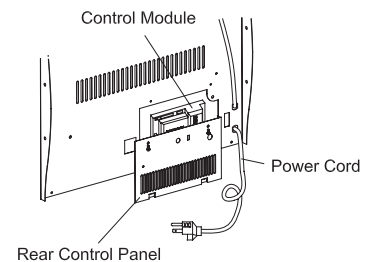
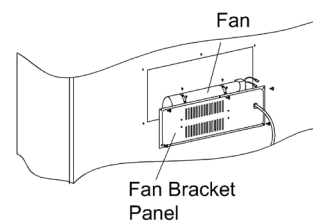
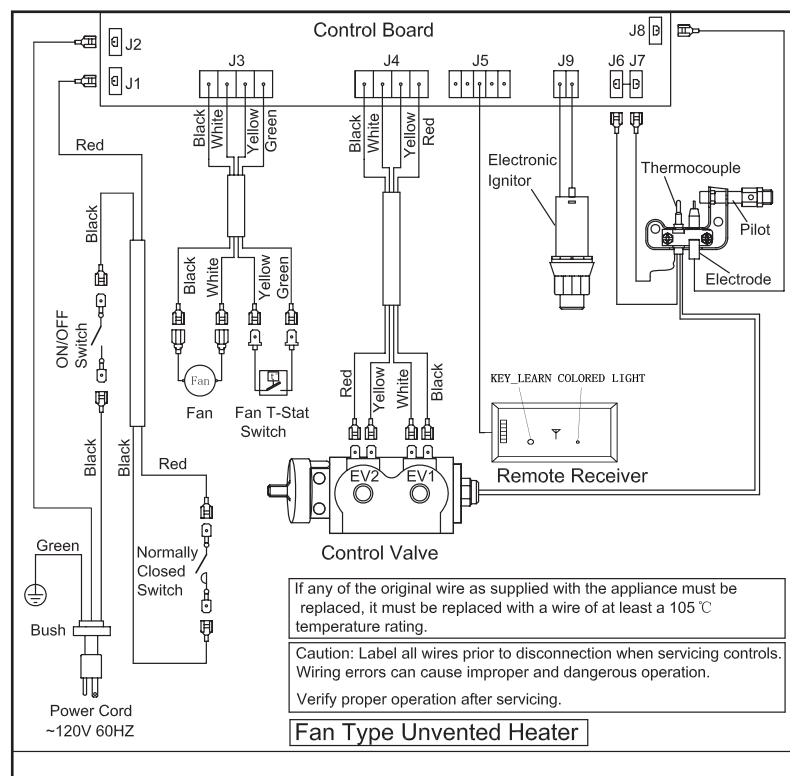

Figure 39 - Control Module Access
Figure 40 - Fan Access
Figure 43 - Override Control System Diagram
2. Remove four screws, take out control module. When installing, reverse the steps above. (See Figure 39 and Figure 43).
2. Mark or tag each wire removed for its exact reconnection. Remove the four screws from the fan. When installing, reverse the steps above. (See Figure 40 and Figure 43).